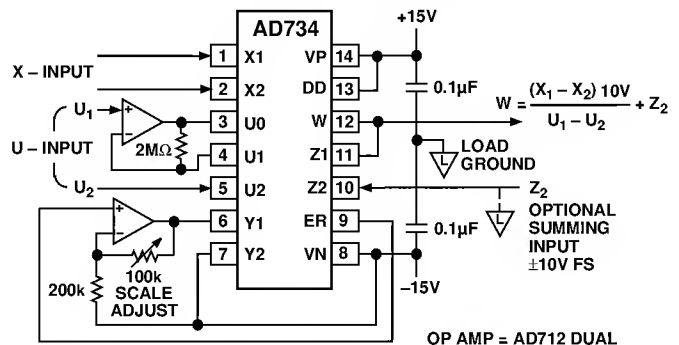

Figure 12. Two-Quadrant Divider with Fixed 10 V Scaling
The output ER may also be buffered, re-scaled and used as a general-purpose reference voltage. It is generated with respect to the negative supply line Pin 8 (V_N), but this is acceptable when driving one of the signal interfaces. An example is shown in Figure 12, where a fixed numerator of 10 V is generated for a divider application. There, Y_2 is tied to V_N but Y_1 is 10 V above this; therefore the common-mode voltage at this interface is still 5 V above V_N , which satisfies the internal biasing requirements (see Specifications Table).
Where a numerator of 10 V is needed, to implement a two-quadrant divider with fixed scaling, the connections shown in Figure 12 may be used. The reference voltage output appearing between Pin 9 (ER) and Pin 8 (VN) is amplified and buffered by the second op amp, to impose 10 V across the Y1/Y2 input. Note that Y2 is connected to the negative supply in this application. This is permissible because the common-mode voltage is still high enough to meet the internal requirements. The transfer function is